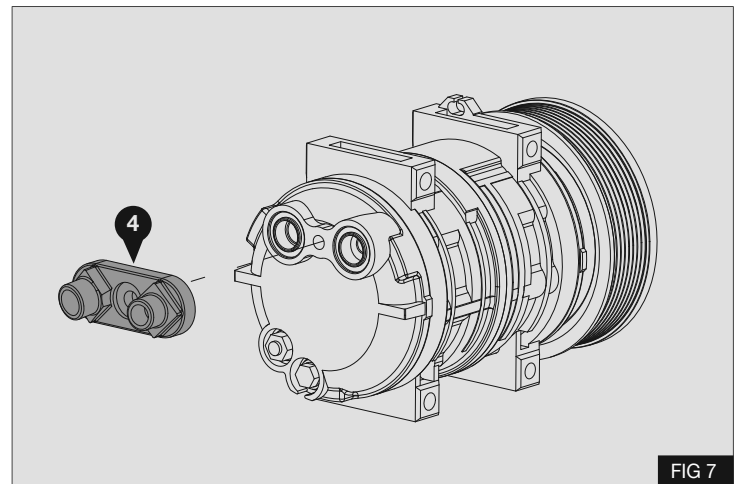

FIG 7
1. Install the supplied compressor manifold (4) to the compressor using the M10 bolt from the blanking cap on the rear of the compressor - Fig 7